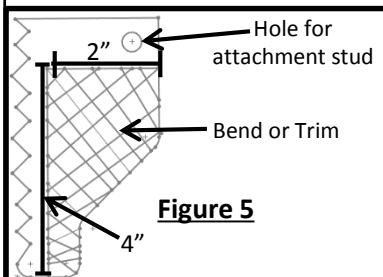
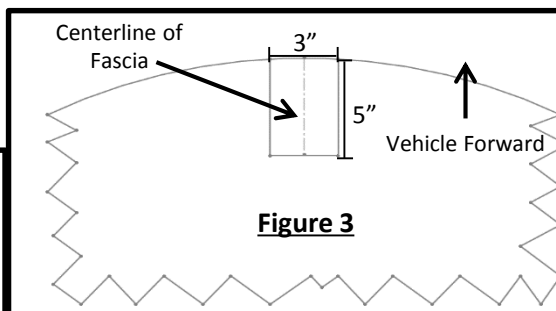
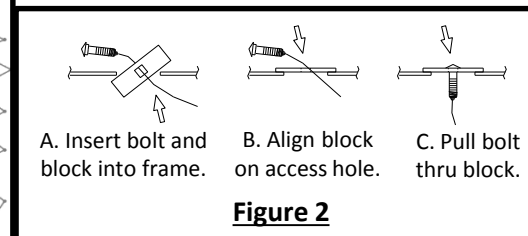

Figure 5
Figure 3
Figure 2
- Note:** Removal of the heat shield is not required but can be removed to assist with modification. Cut or bend the area around the rearmost stud to make clearance for the hitch. Make sure to leave the hole in the heat shield so that it may be reattached. If removed modify and reattach. (See figure 5)
4. **Remove Existing Hardware** – Remove the existing 10mm bolts (2) each side from the bulk head.
5. **Fish Wire** – Attach items ① and ② to item ⑤ and follow the instructions in Figure 2. Leave item ⑤ attached until the hitch is raised into position.
- a) **USA built models:** Secure hitch to vehicle using supplied 10mm bolts, item ⑥ (2) per side and 7/16" conical washers, item ③ (teeth side toward hitch).
- b) **Korean built models:** Secure hitch to vehicle using supplied 8mm bolts, item ⑦ (2) per side and 3/8" conical washers, item ⑧ (teeth side toward hitch). Then remove item ⑤ and attach item ③ and ④ to item ①.
7. **Trim Lower Fascia** – In the center of the lower fascia cut a 3-inch-wide by a 5-inch-long section to give clearance for the receiver tube of the hitch. (See Figure 3)
8. **Reinstall Lower Fascia and Plastic Cover** – Snap the lower fascia into to place and reinsert the (2) screws removed in step 2. Then reinstall the plastic cover with the (4) 10mm nuts and (3) plastic push pins removed in step 1.
Note: Removal of the heat shield is not required but can be removed to assist with modification. Cut or bend the area around the rearmost stud to make clearance for the hitch. Make sure to leave the hole in the heat shield so that it may be reattached. If removed modify and reattach. (See Figure 5)
5. Fish Wire – Attach items ① and ② to item ⑤ and follow the instructions in Figure 2. Leave item ⑤ attached until the hitch is raised into position.
Note: Removal of the heat shield is not required but can be removed to assist with modification. Cut or bend the area around the rearmost stud to make clearance for the hitch arm. Make sure to leave the hole in the heat shield so that it may be reattached. If removed, modify and reattach. (See Figure 5)